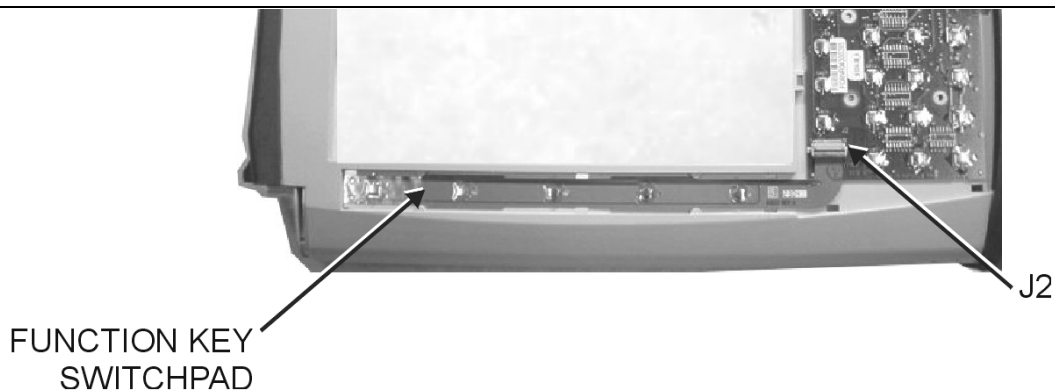

Figure 21. Function Key Switchpad
5. Disconnect the function key flexible switchpad from J2 of the keypad PCB by carefully lifting the locking tab on connector J2 to release the flexible switchpad (Figure 21).